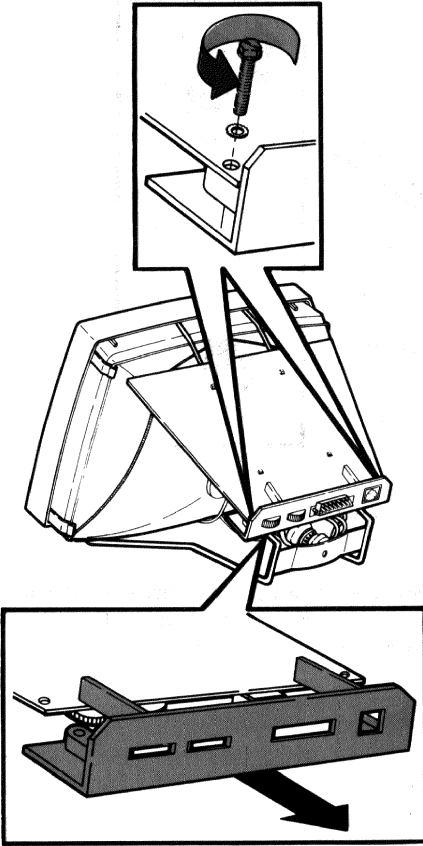

Figure 5-44 Monitor Module Rear Panel Removal
14. Remove the rear panel from the edge of the monitor module as shown in Figure 5-44.